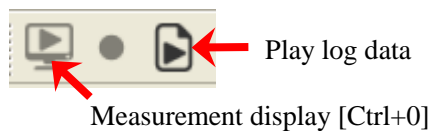

Figure 3-19 Play log data button
- ① Click play button as shown in figure 3-19.